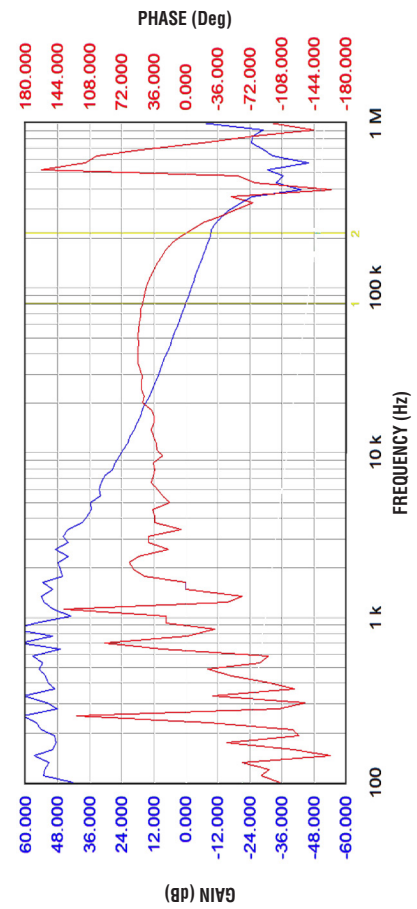

Figure 26. LTM4630-1 2-Phase, 1V at 36A Design with ±3% Transient Response
**Table 4. Output Voltage Response vs Component Matrix (Refer to Figure 26) Load Step Typical Measured Values**